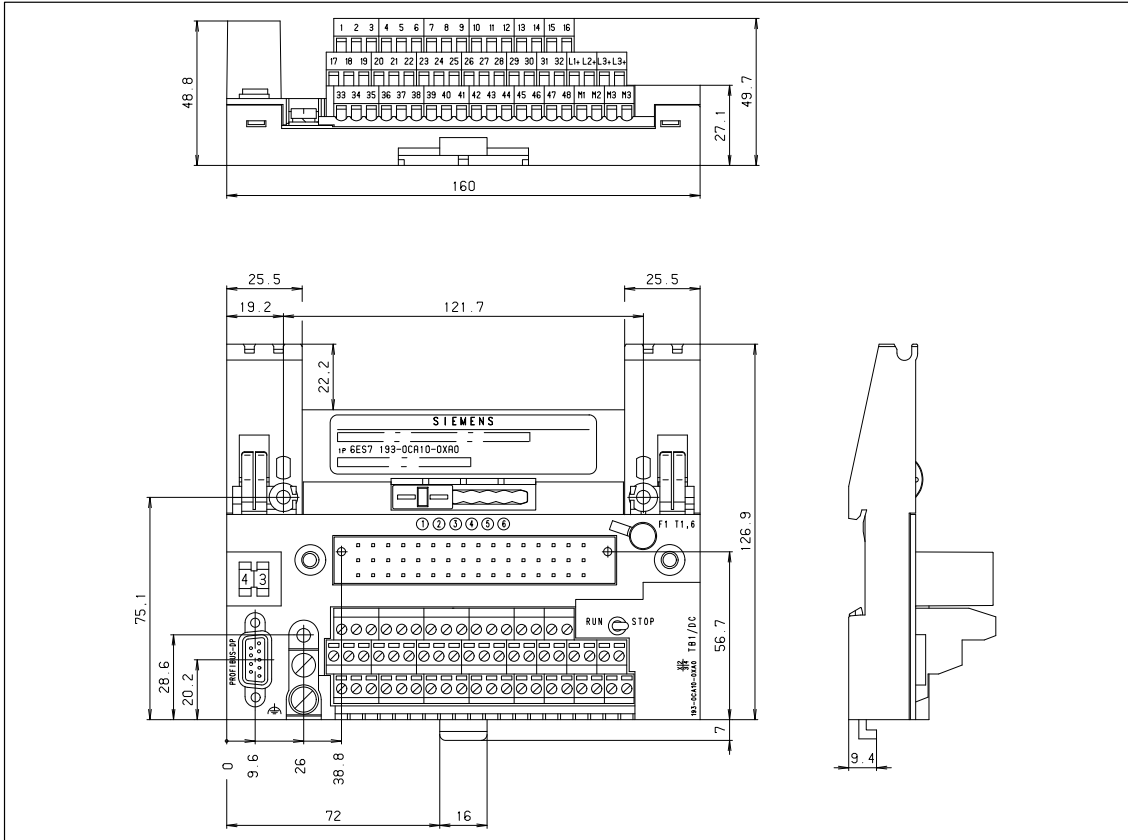

Figure 7-1 Dimensional Drawing: Terminal Block TB1/DC (Screw-Type Terminal, 3-Tier)
**Dimensional Drawing** Figure 7-1 is a dimensional drawing of the TB1/DC (screw-type terminal, 3-tier).